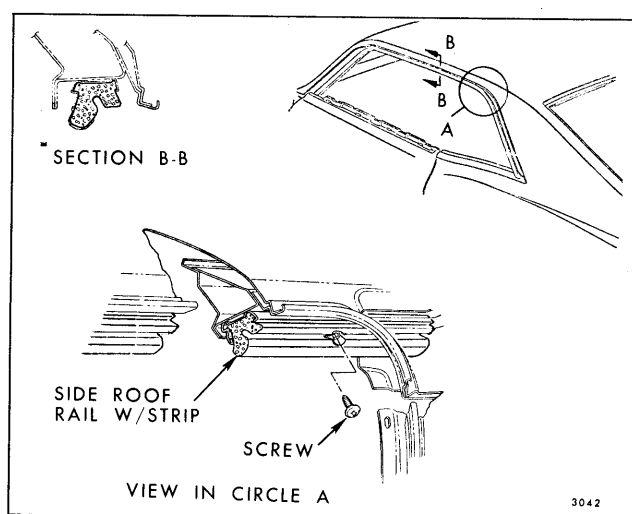

Fig. 6-11—Side Roof Rail Weatherstrip - "E-47" Styles
1. At front of weatherstrip, disengage plastic fasteners from front body hinge pillar (See Fig. 6-11).
2. Lower rear quarter window and remove screw at rear of side roof rail weatherstrip (See Fig. 6-11).
4. With weatherstrip removed, screws securing weatherstrip retainer to side roof rail are exposed. Remove screws to remove side roof rail weatherstrip retainer (See Fig. 6-11).